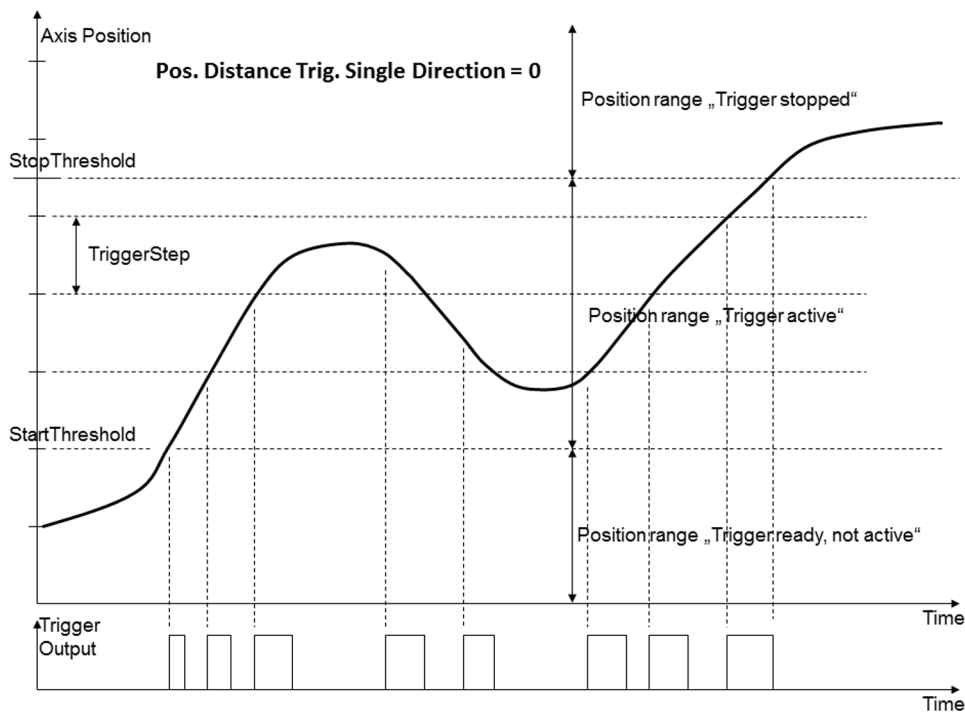

Figure 22: "Position Distance" Trigger Mode with threshold settings, trigger output continues when the motion direction is reversed
- 0 (default setting) = Trigger is generated whenever the position is within the range defined by the start/stop thresholds. Trigger output is independent of the current direction of motion, i.e. continues when the motion direction is reversed before the axis position has reached the stop threshold (Figure 22).